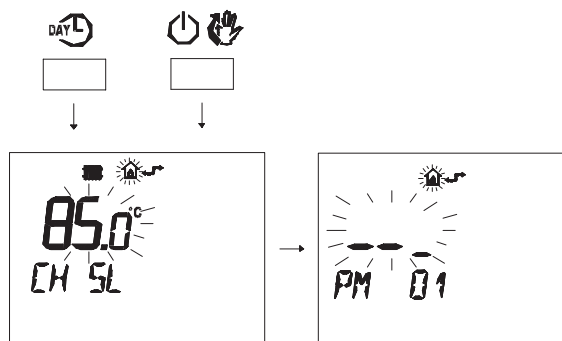

Fig. 7.29
- Press buttons  and  at the same time to enter transparent programming (Fig. 7.29).